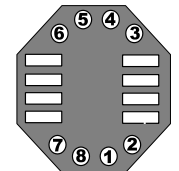

Figure 2.
**AG915-06**—This PCB is designed to mount an MSOP8 ABL sensor for use in an M8 housing. Figure 2 shows the connections.